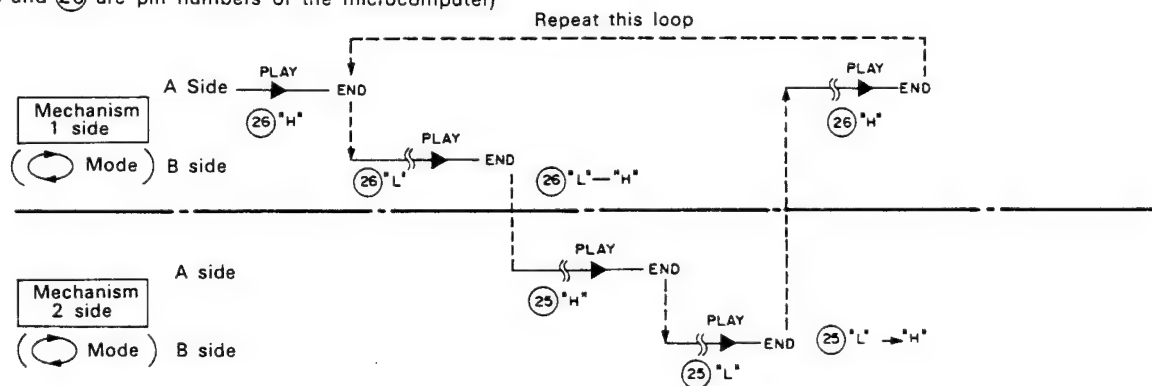

Fig. 10-6-4
In Fig. 10-6-4, the signal which serves as a trigger by detection of tape end and changing tape from [B] to [A] is due to the direction switch which is shown in [2] 10-6-1. (Off when playing back [A] side and on when entering [B] side playback) In accordance with the information of this switch, pins (25) and (26) of the microcomputer change.